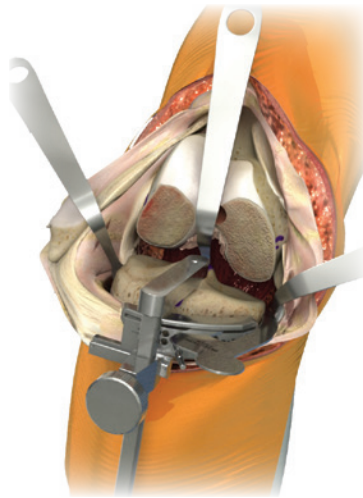

Figure 35
8. Check the posterior slope and resection plane with resection check (angel wing) (Figure 35).